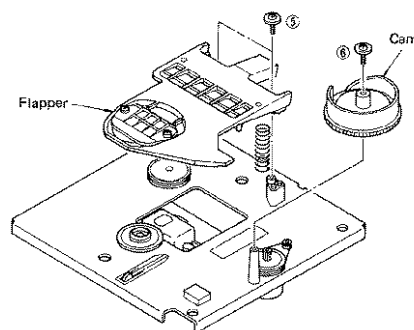

Fig. 5
- a. Remove 2 screws (5) fixing Flapper in Fig. 5 and then remove the Flapper.
- a. Remove screw (6) in Fig. 5 and then pull up the Cam.